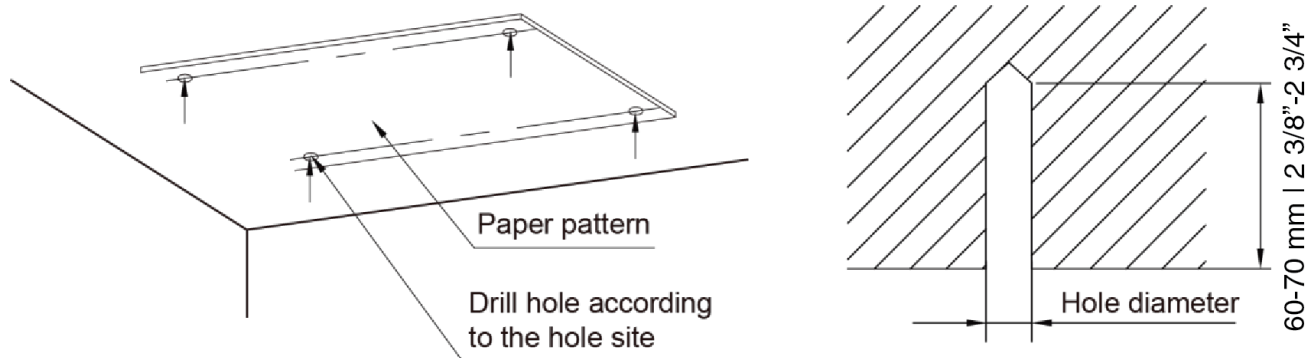

Fig. 4
- a. Stick the cardboard template onto the installation position (Fig. 4).
- b. Drill 4 holes using the hole pattern on the cardboard template as shown in Fig. 4.
- c. The diameter of hole to be drilled is determined by the diameter of expansion bolt and the depth is 60-70mm (2-3/8~2-3/4 in.), as shown in Fig. 4.